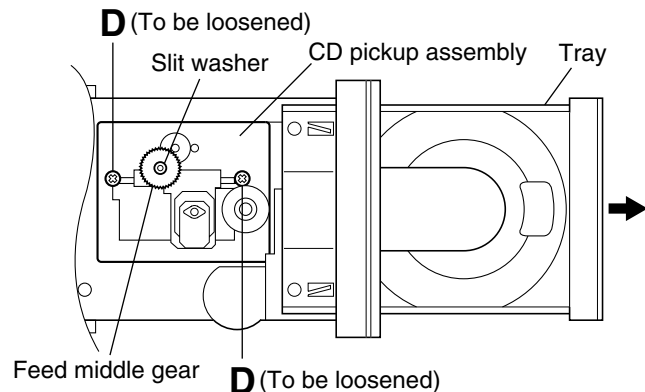

Fig.10
5. Pull out the tray. (See Fig.10.)
6. Remove the slit washer retaining the feed middle gear, and take out the feed middle gear. (See Fig.10.)
7. Loosen the two screws **D** retaining the shaft. (See Fig.10.)